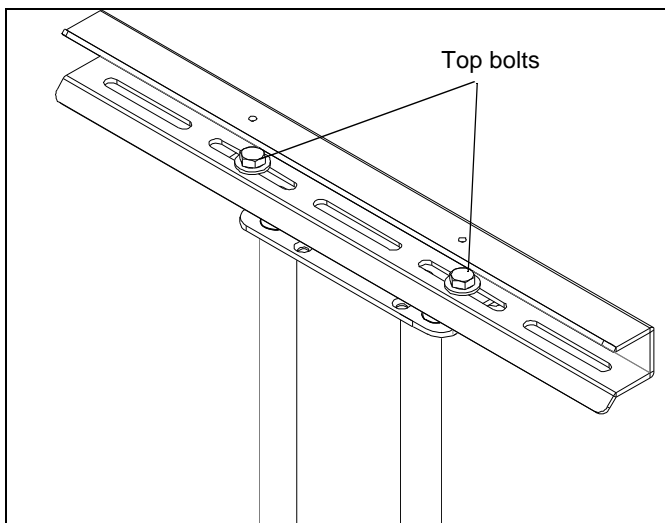

Figure 12
2. Loosen four bolts (two on the top and two on the bottom) securing the swing arm assembly to top and bottom mounting brackets (See Figure 12).